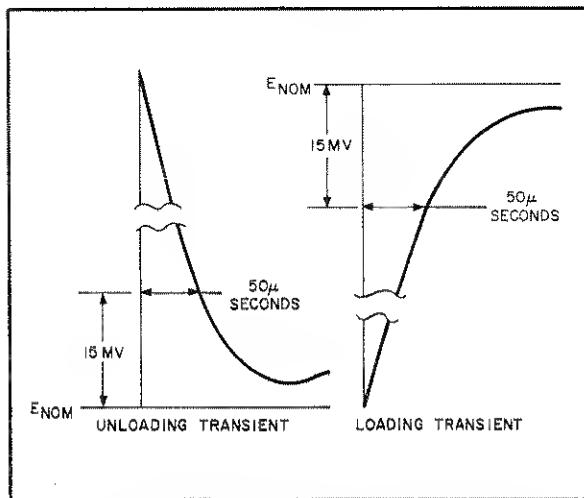

Figure 5-5. Transient Recovery Time Waveforms
- i. Starting from the major graticule division representative of time zero, count to the right 50μ sec and vertically 15mV. Recovery should be within these tolerances; as illustrated in Figure 5-5.